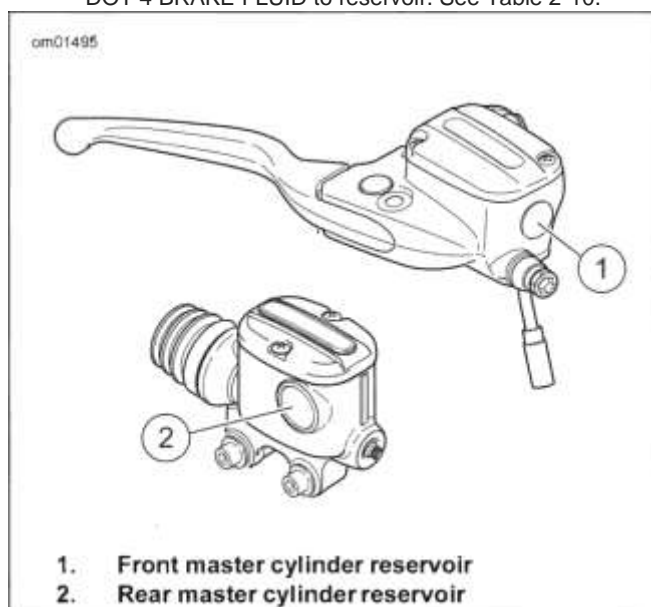

Figure 2-21. Sight Glass Minimum Marks
3. See Figure 2-21. View reservoir sight glass. Fluid level must be at or above the minimum mark on glass. If fluid level is below minimum mark: